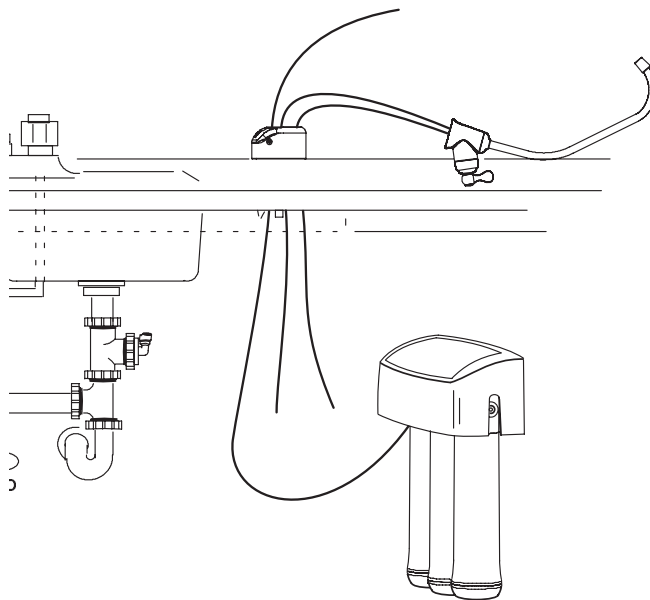

FIG. 13
4. Locate the faucet base. (The black and blue tubes are already connected to the faucet.) Insert these tubes into the sink hole until approximately one foot of tube length and the faucet base are left above the counter surface. Do not kink the tubes in the process. See Fig. 13.